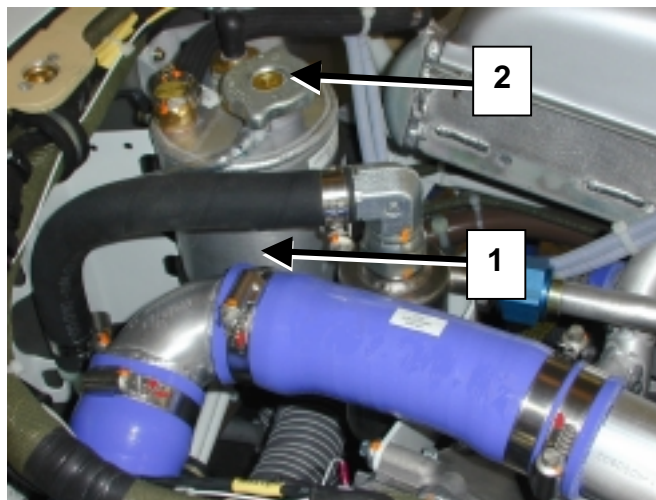

Fig. 31-4a Expansion Tank of CENTURION 2.0
- (1) Remove the cap of the expansion tank.
- (2) Disconnect the coolant hose connection and allow the coolant to drain in a suitable container. See Fig. 31-4a.
- (3) Seal the coolant connection of the expansion tank. See Fig. 31-4a.
- (1) Connect the coolant hose to the expansion tank. See Fig.31-4a.
- (2) Replenish the coolant (refer to Chapter 12, Section 12.10, Liquid Cooling System)